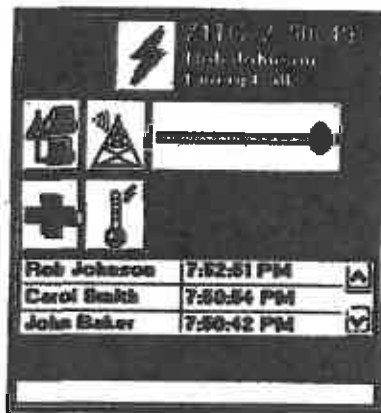

Figure 1-7: Expanded Radio Resource
- **Expanded Resource** -- This radio resource always shows the indicators and controls (Figure 1-7) and cannot be compressed. The expanded version provides the advantage of a single-button press for any function. It is ideal for dispatchers who are only monitoring a few channels/talk groups and where space in the resource folder is not at a premium.